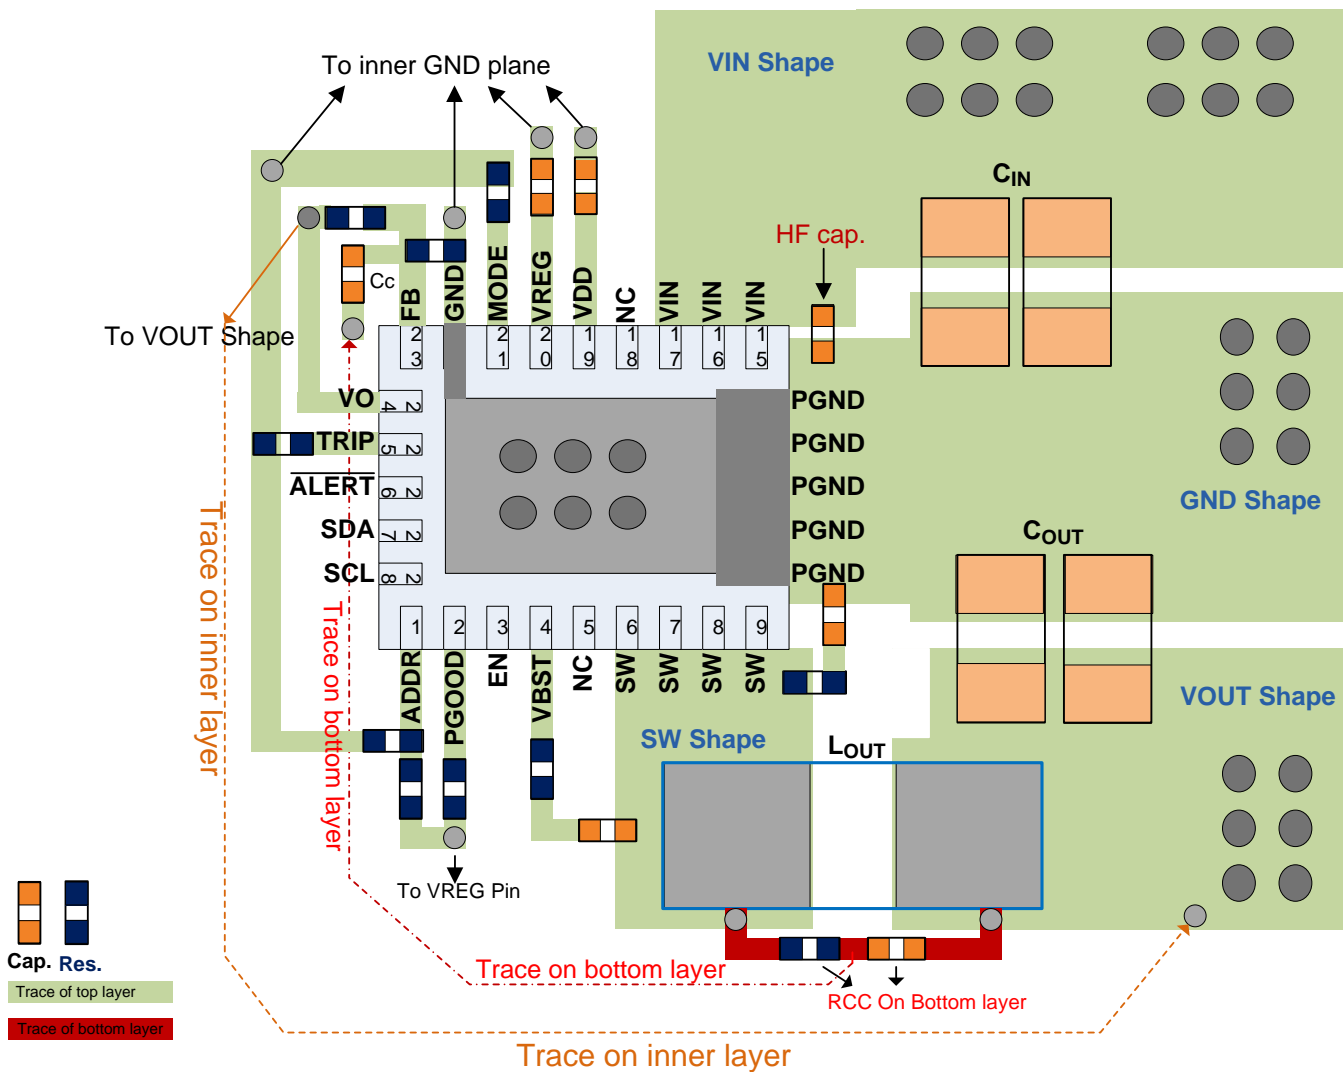

图 65. Layout Recommendation
- See Figure 65 for the layout recommendation.